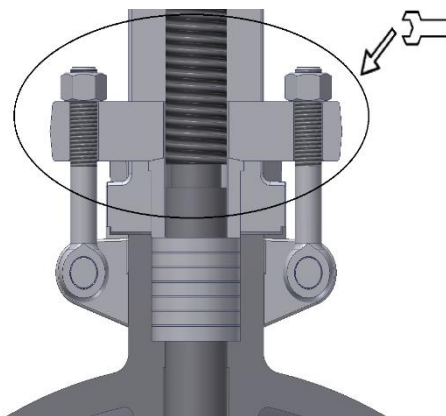

Fig. 2 Stem packing gland tightening
- The valve stem packing should be the subject of particular attention as it is important for the qualitative maintenance of tightness and shall be checked every 3 months. If leakage at the stem packing is detected, the gland nuts should be tightened slowly (Fig. 2). When gland nuts are tightened, if the gland falls down more than twice the packing ring height, new packing rings should be added to the stem packing.